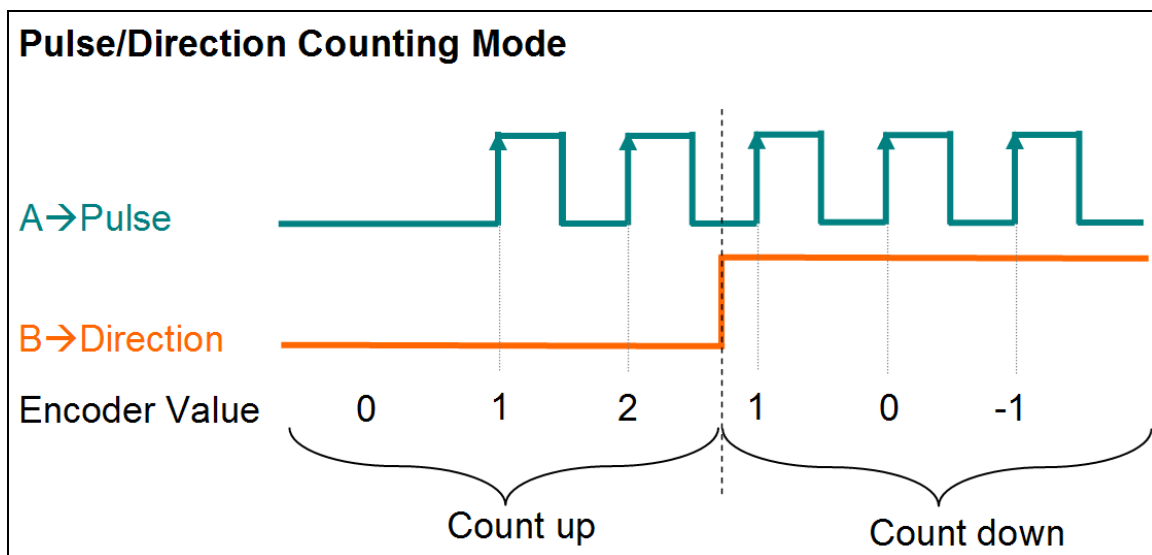

Figure 25: Pulse/Direction counting mode
In the **pulse/direction counting mode** (Figure 25) one input signal line is being used to indicate the position and a second one indicates the direction of motion, either forward or reverse. The "A" signal serves as the counter input and the "B" signal serves as the direction input (B = high: enables up count; B = low: enables down count). The ECAT-2093 counts the rising or falling edges of the "A" signal pulses and the "B" signal determines the direction of the count and decides whether to increment or decrement the counter. On every active input signal "A" the position counter is incremented by one when the direction input "B" signal is high and decremented by one when the direction input "B" is low.
- By changing the signal "B" polarity which indicates the direction for the pulse/direction counting mode (Figure 25) the counting direction will change.